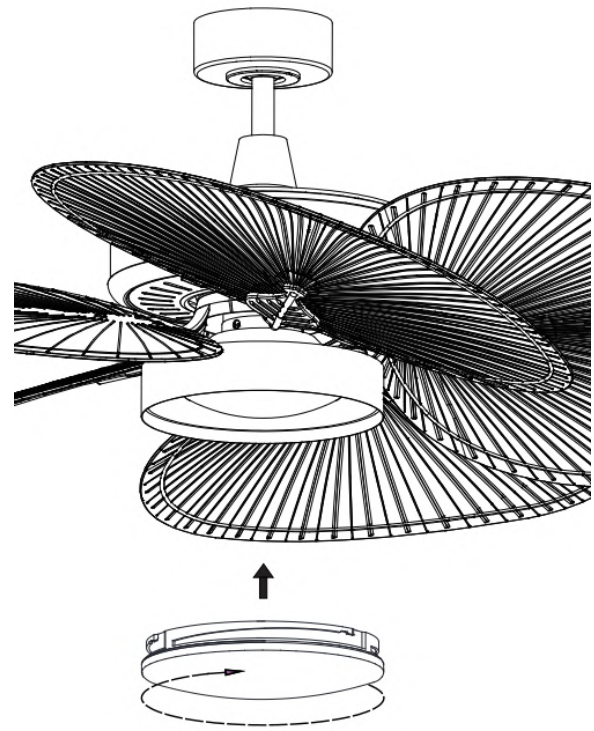

Fig. 12
- Install the lamp shade onto the light kit, then secure it by turning clockwise. (Fig.12)